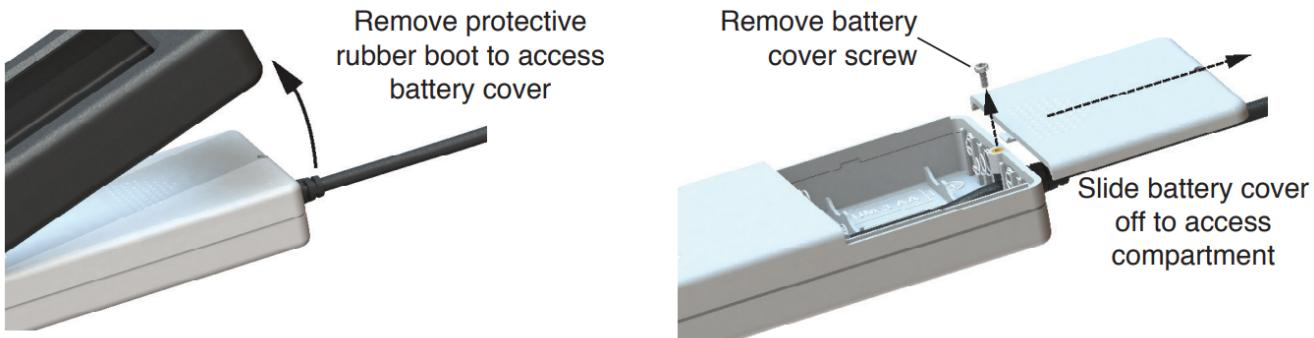

Figure 4.1 Insert Batteries
Step 1. First insert the four AA batteries into the probe as shown in **figure 4.1**.